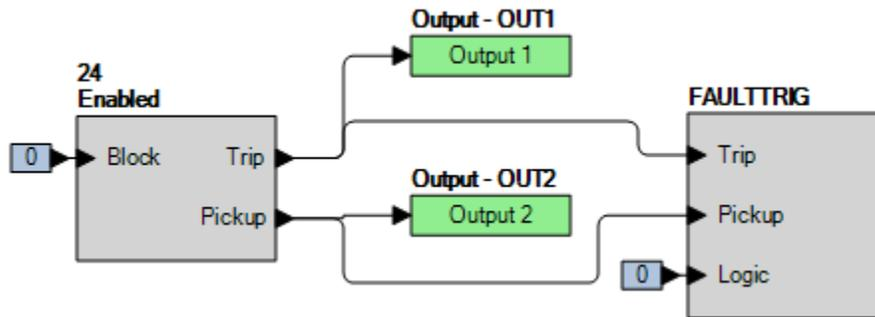

Figure 40-1. BESTlogic_{Plus} Settings
Step 2: Use BESTCOMSP_{Plus} to configure the BESTlogic_{Plus} programmable logic shown in Figure 40-1.